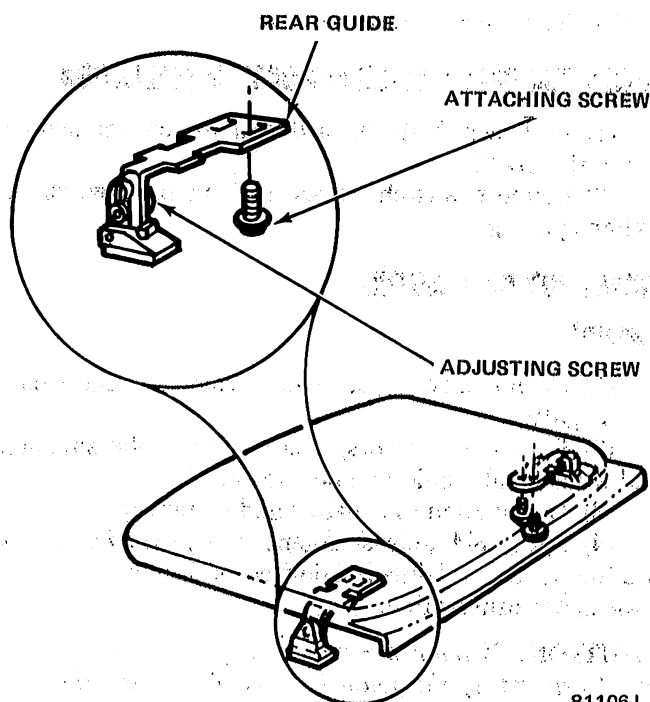

Fig. 3L-18 Glass Panel Rear Height Adjustment
(3) Loosen rear slide adjuster nut (fig. 3L-18) and raise or lower panel as required to obtain desired adjustment.